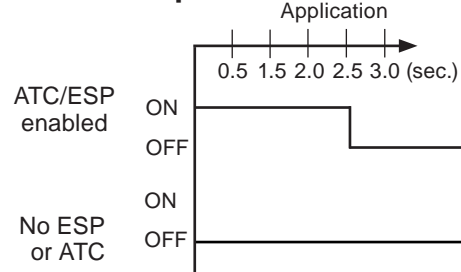

FIGURE 10 - BENDIX® ESP® EC-80™ CONTROLLER INDICATOR LAMP BEHAVIOR
**NOTICE:** The vehicle operator should Verify the proper operation of all installed indicator lamps (ABS, ATC/ESP, and trailer ABS) when applying ignition power and during vehicle operation. See Figure 10.